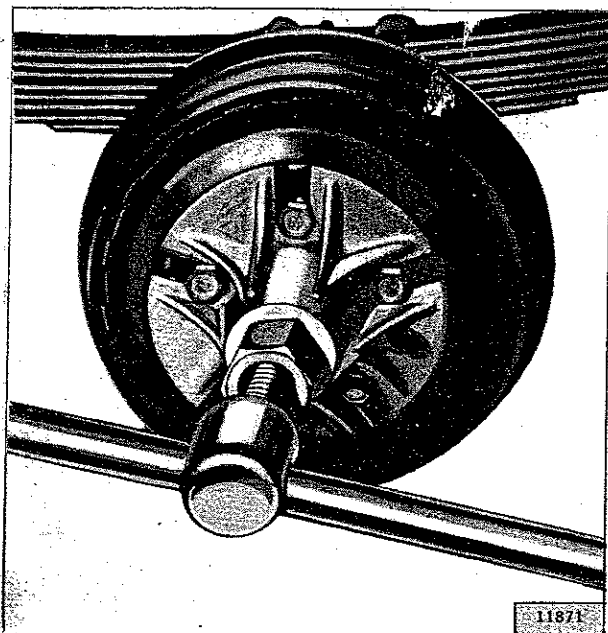

FIG. N-4—WHEEL HUB PULLER
e. Use Wheel Hub Puller C-319 to remove the wheel hub as shown in Fig. N-4.